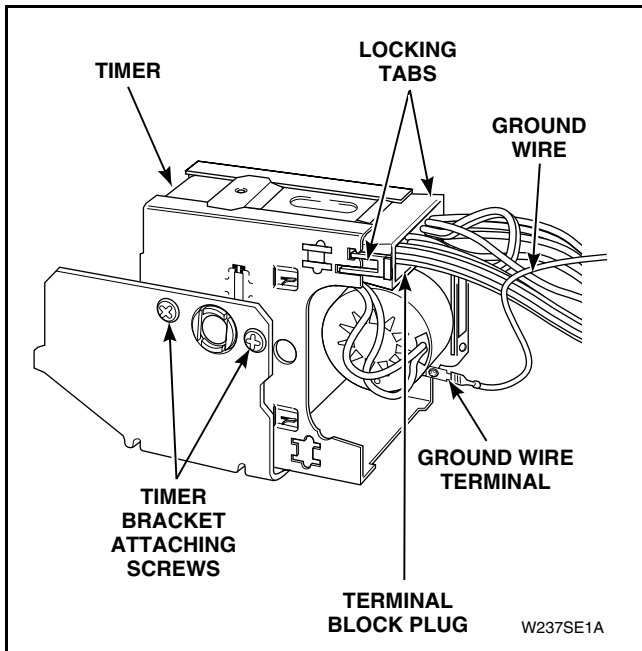

Figure 10
- (4) Disengage wire harness terminal block plug from timer by pressing in movable locking tabs (located on each side of terminal block plug). Refer to *Figure 10*. Then pull terminal block plug away from timer.
- (5) Disconnect ground wire from terminal on timer. Refer to *Figure 10*.
- (6) Remove two screws holding timer to timer bracket. Refer to *Figure 10*.
- (2) Attach timer to timer bracket using two screws. Refer to *Figure 10*.
- (3) Reconnect wire harness terminal block plug and ground wire to timer.